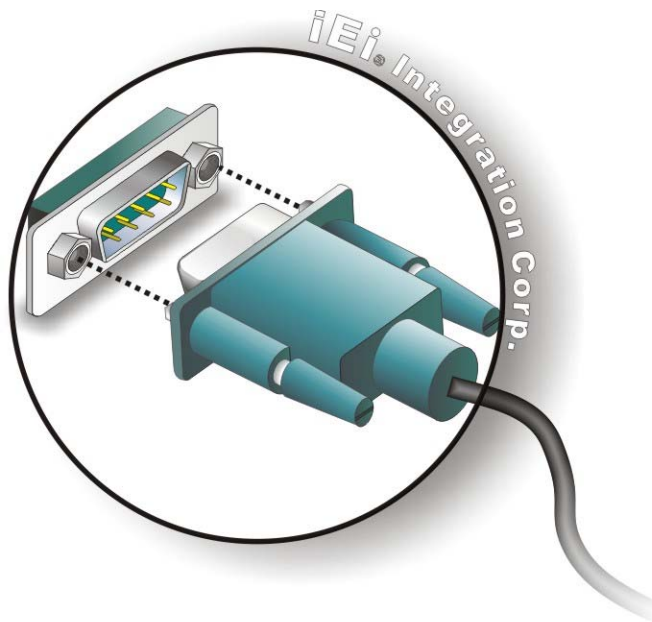

Figure 4-20: DB-9 Serial Port Connector
- Step 2:** **Insert the serial connector.** Insert the DB-9 connector of a serial device into the DB-9 connector on the bottom panel. See **Figure 4-20**.